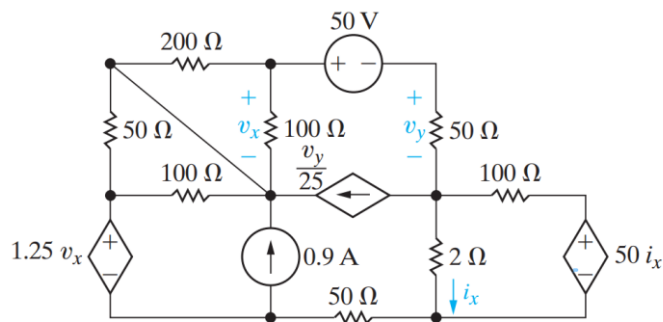

Fig 5
5. [6%] Use Mesh-Current method to find the power developed by the 50V source in Fig 5.